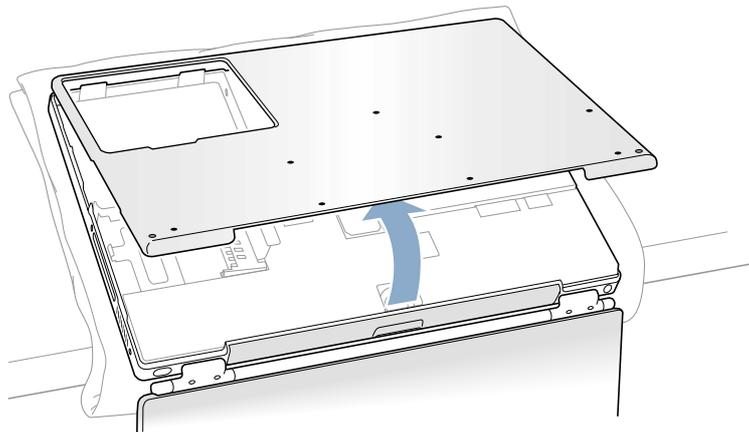

Figure 6
10. When both sides have released, lift up on the edge of the bottom case that is closest to you; carefully and evenly pivot it over the front edge of the computer until it releases (**Figure 6**).